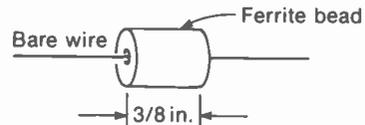

FIGURE 7-29 FERRITE BEAD USED AS RF CHOKE.
**Ferrite beads.** As shown in Fig. 7-29, a bare wire is used as a string for one or more ferrite beads. The wire may be a connection between terminals or one lead from a component. A fer-